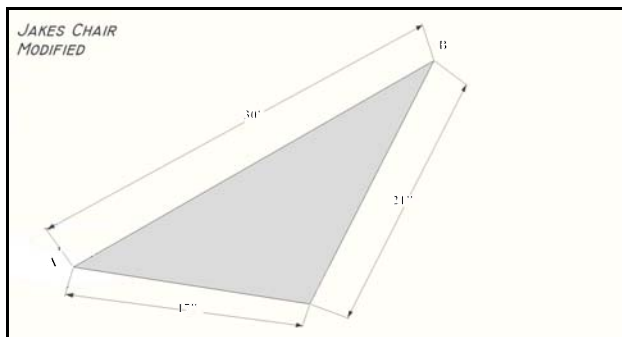

Figure 6. Proportions to yield 100° Seat Back Angle
F. The angle of the seat to the seat back should be between 90° and 100°. Figure 6 shows the geometry required to get a seat angle of 100°. The distance between an arbitrary point "A", 17" from the front of the LBS, and an arbitrary point "B", 21" above the LBS,